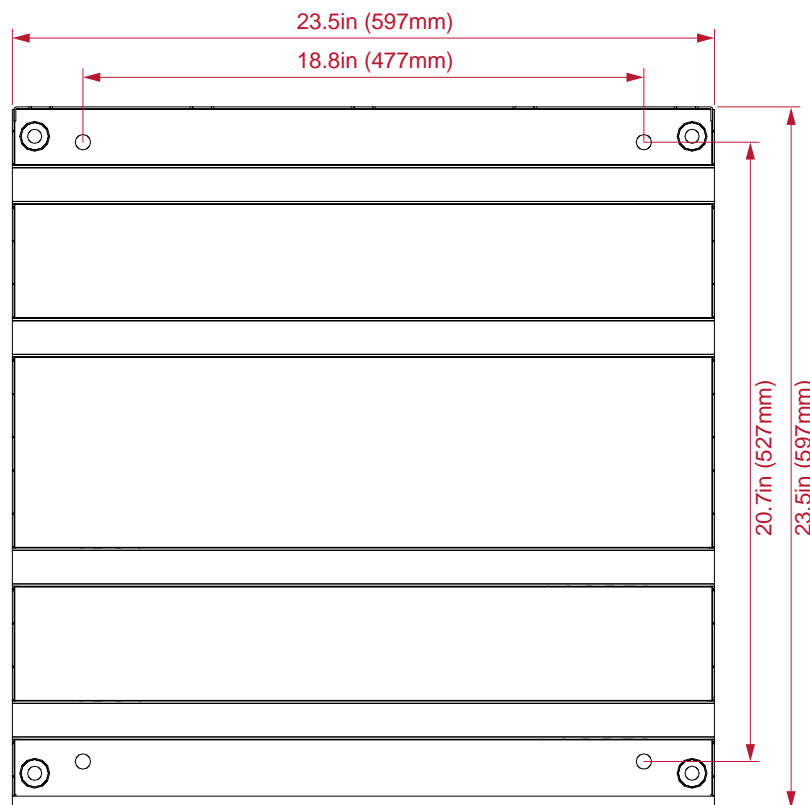

Figure 4-1 Cabinet Drilling Pattern
4. Mark the position of the four fastening bolts on the floor according to the Figure 4-1.